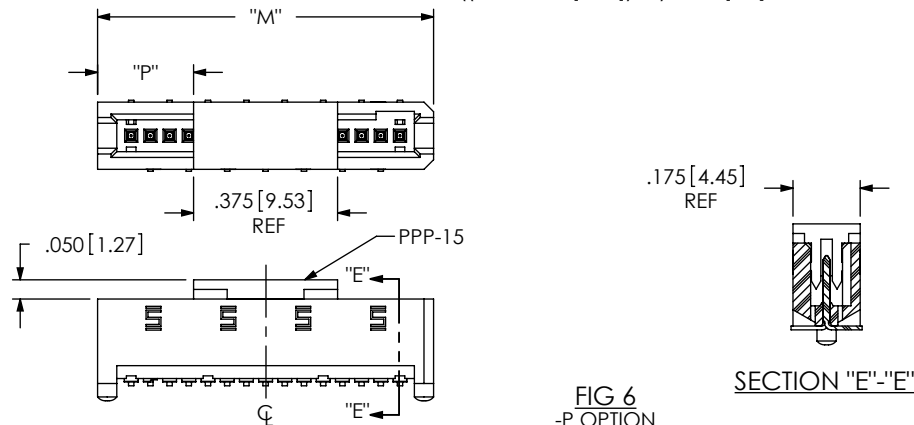

FIG 6
- P: PICK AND PLACE PAD (USE PPP-15) (SEE FIG 6, SHEET 2) (ONLY AVAILABLE ON -08 THRU -50 POSITIONS)